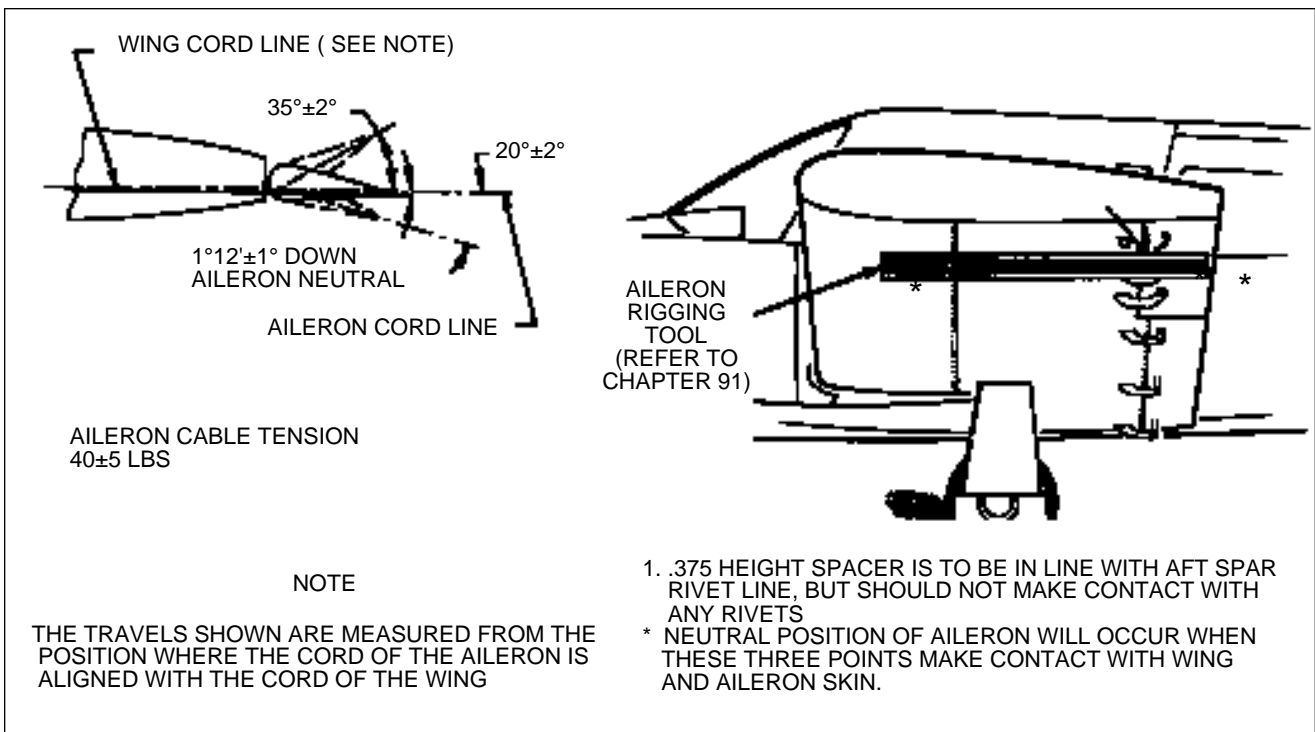

Figure 27-10. Aileron Rigging
RIGGING AND ADJUSTMENT OF AILERON CONTROLS (Refer to Figures 27-10 and 27-11)
5. The aileron's neutral position is designed to be at a point where the chord line of the aileron forms a $1^{\circ} 12' \pm 1^{\circ}$ down angle with the wing chord, viewed at the inboard end of the aileron. The tool to determine neutral position is shown in use in Figure 27-10 with reference to Chapter 91 for specific dimensions. The following procedure should be used for determining aileron neutral position.